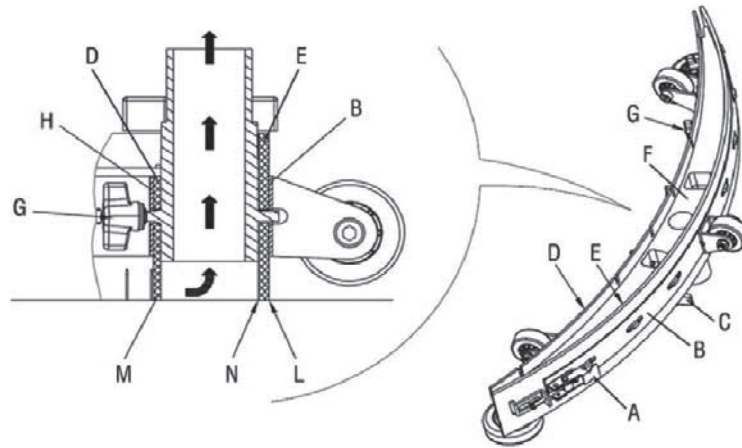

Fig. 4
- ▶ Clean the squeegee (Fig. 4) as shown in the previous paragraph.
- ▶ Check that the edge (M, Fig. 4) of the front blade (D) and the edge (N) of the rear blade (E) lay down on the same level, along their length; otherwise adjust their height according to the following procedure:
- Open the Latch (A) to adjust the rear blade (E); then engage the Latch.
- Loosen the Knob (G) and adjust the front blade (D); then tighten the Knob (G).
- ▶ Check the front blade (D) and rear blade (E) for integrity, cuts and tears; if necessary replace them as shown below. Check that the front corner (N) of the rear blade is not worn; otherwise, overturn the blade to replace the worn corner with an integral one. If the other corners are worn too, replace the blade according to the following procedure:
- Loosen the Knob (G), disengage the retainers (H), then replace/overturn the front blade (D). Install the blade in the reverse order of removal.
- Open the Latch(A) and remove the retaining strip (B), then replace the rear blade (E). Install the blade in the reverse order of removal.
- ▶ Connect the vacuum hose (7) to the Squeegee (9).
- ▶ Install the squeegee (9) and tighten the Knob (C).